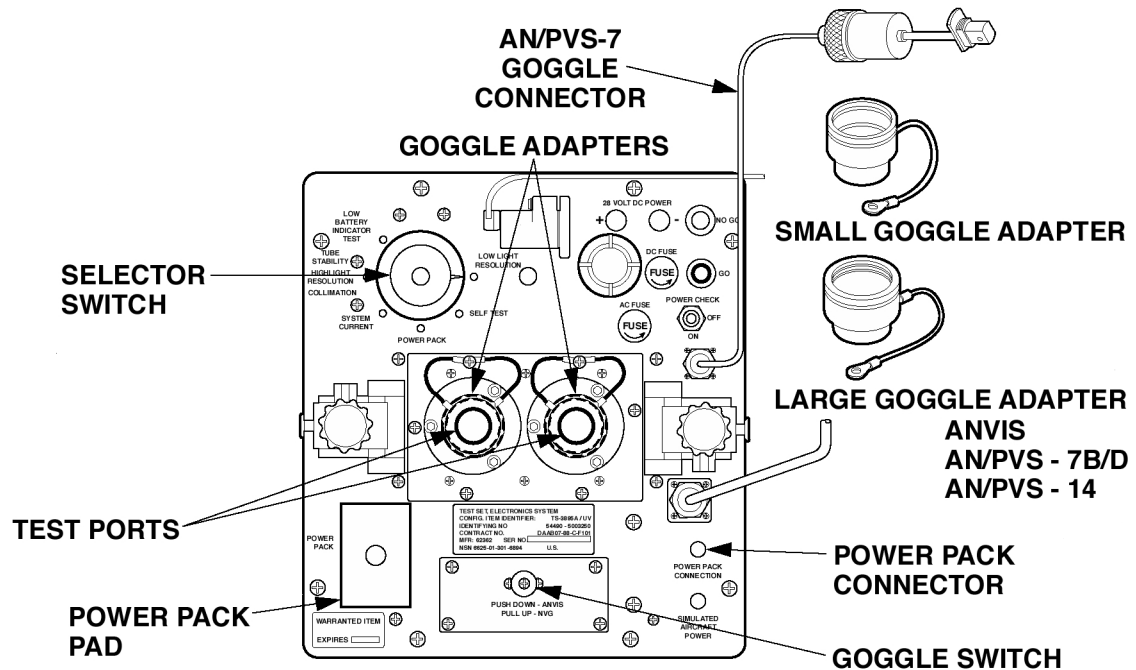
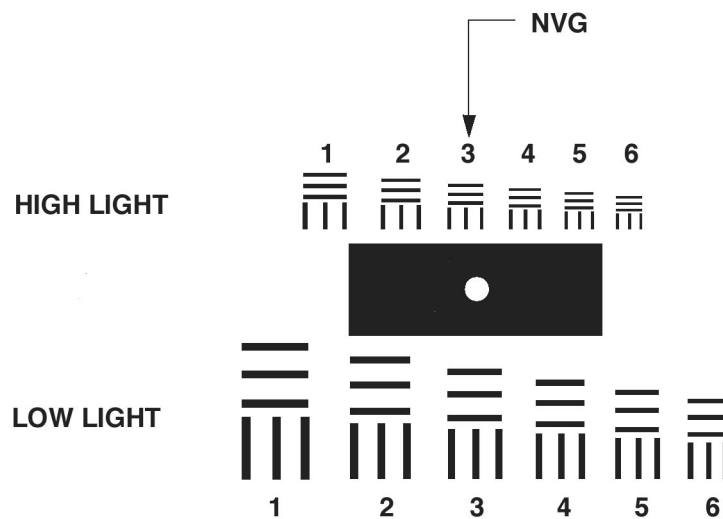

Figure 3-1. Location of Major Components on the Test Set.
Figure 3-4. High Light Resolution Test Pattern.
- (3) Review the location of major components (Figure 3-1).
- (4) Ensure that the test port lenses of the test set are clean and free of dirt.
- (5) Attach the large goggle adapter to either test port and cover other test port.
- (1) Turn the selector switch to the LOW LIGHT RESOLUTION (yellow) position (Figure 3-1).
- (2) Place the goggle switch in the down (ANVIS) position.
- (3) Turn off the room lights and let your eyes adjust to the dark.
- (4) Turn on the goggles and turn on the test set.
(5) Focus the objective lens and then the eyepiece lenses for best focus to obtain the sharpest image.
(1) Turn the selector switch to the HIGH LIGHT RESOLUTION (blue) position (Figure 3-1).
(2) Place the goggle switch in the down (ANVIS) position.
(3) Look for flashing, flickering, shading, or bright spots, refer to (TM 11-5855-262-10-2). If any unacceptable conditions are noted, replace the image intensifier (para 3-14).
(4) Now observe the test pattern. You must be able to distinguish all three horizontal lines and all three vertical lines to count seeing the Element (Figure 3-4). You must be able to see Element 3 on the top of the test pattern for the NVG to pass.
(5) If the goggles fail, recheck the objective lens and eyepiece lens focus to make sure you have the sharpest image.
(6) If the goggles still fail, refer to Table 3-1 Troubleshooting.